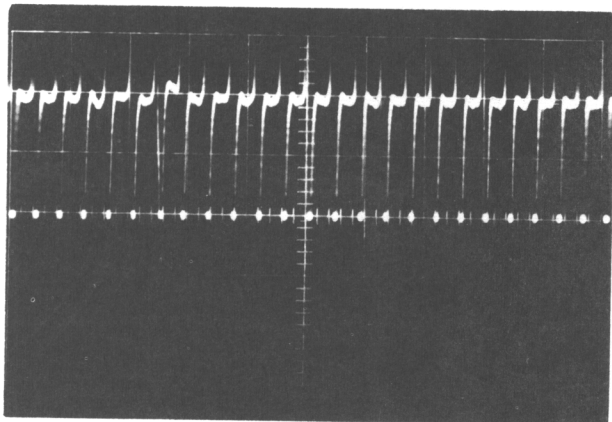

Figure 3-23. 1K12A (2 ms/div)
3. Adjust the 2K potentiometer on 1K12 to clip the signal to 40% of the total amplitude of the negative pulses observed in Step d (40% = two major scope divisions, Figure 3-23).